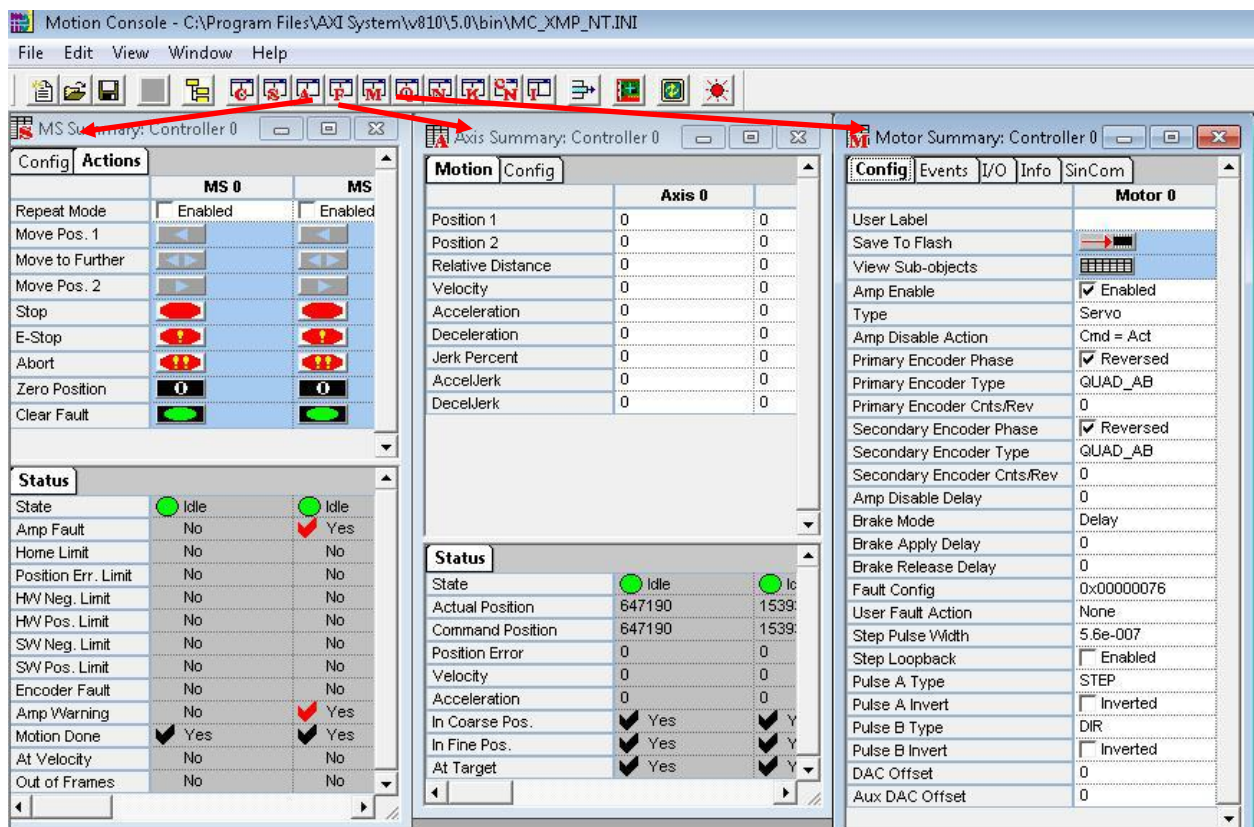

Figure 5 Motion Control Tab
5. Ensure this 3 tab is open in the Motion Console tab as shown in Figure 5.